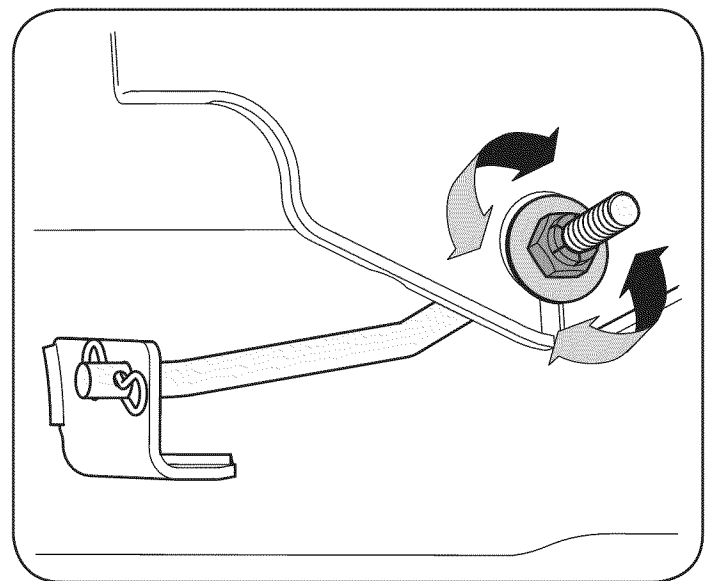

Figure 20
3. Locate the flange lock nut on the front side of the stabilizer bracket. See Figure 20.